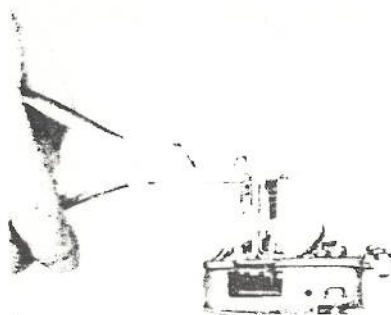

Fig. 10-59
(2) If the deformation of the yoke is serious and bending the adjuster no longer adjusts the non-load voltage, rectify the angle of the yoke with the aid of a tool in the manner illustrated in Fig. 10-59. When the parts is replaced, readjust the gaps before adjusting the voltage. Adjustment on the voltage regulator may be considered complete when the above adjustments are made however, to make dcuble sure that the ad-